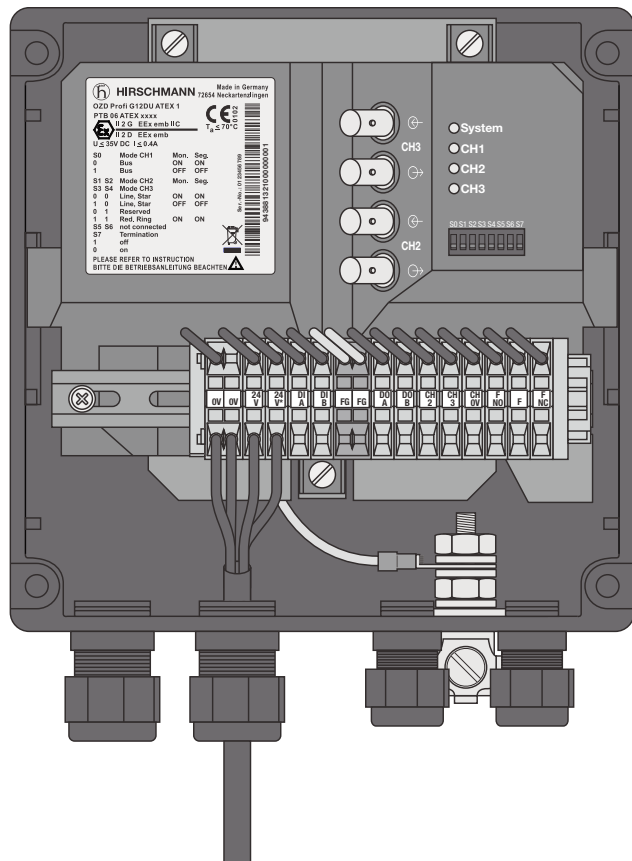

Fig. 31: Cable lead-through of the supply voltage for OZD Profi G12DK ATEX 1 (OZD Profi ... DE ... : analog)
- ▶ Lead the RS cable for the operating voltage for OZD Profi G12DK ATEX 1 and OZD Profi G12DE ATEX as shown in figure 31 through the cable entries (PG glands).